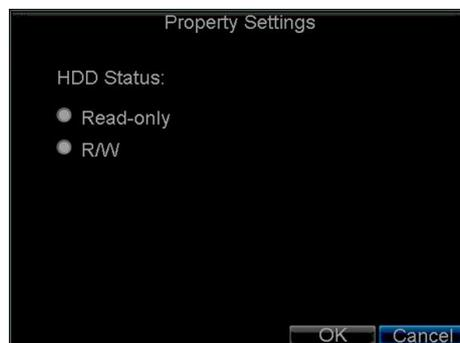

Figure 3. HDD Property Settings Menu
3. Select the **Property** button to enter the Property Settings menu, as shown in Figure 3.